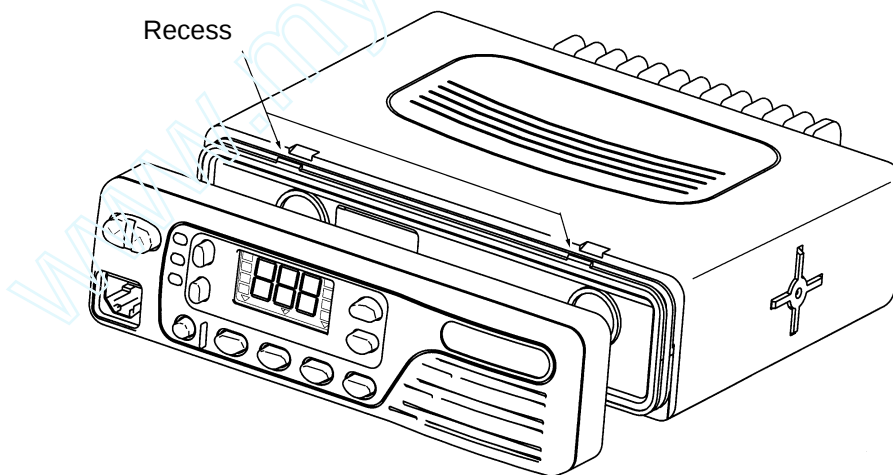

Figure 3-4 Control Head Replacement.
3. Press the control head onto the radio chassis until the protruding tabs on the chassis snap into the recesses inside the control housing, see Figure 3-4.